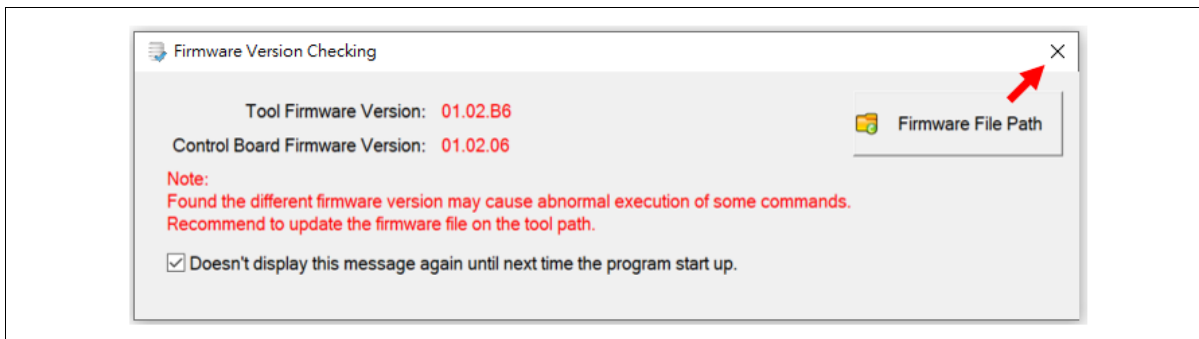

Figure 3-5 NuvotonAudioGUI Operating Step (2)
2. After clicking [OK], NuvotonAudioGUI will automatically read the connection status and verify the firmware version of the NU-NAUSB212C. If the firmware version is outdated, the version reminder window shown in Figure 3-5 will pop up. Users can ignore this message and continue operating NuvotonAudioGUI by clicking the [X] on the top-right corner.